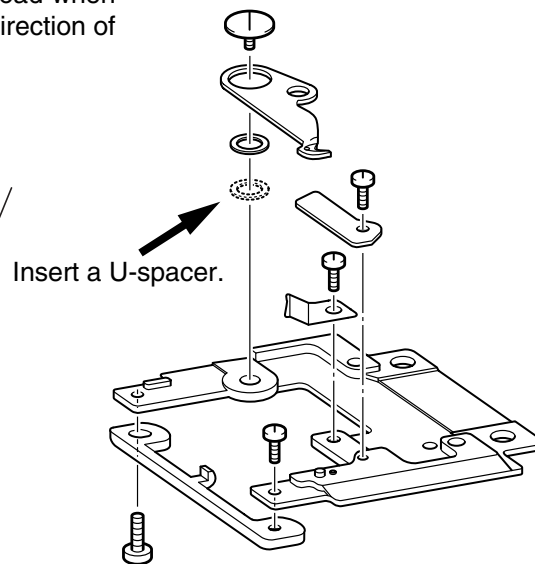

Fig.2
2. When the engagement load is not within the specifications, insert a U-spacer below the collar of the movable knife as shown in Figure 2.